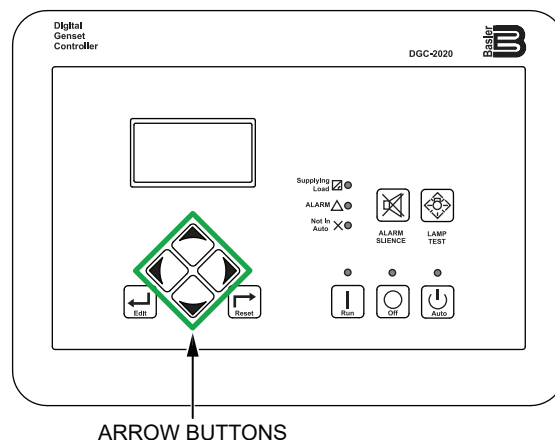

Figure 79. Digital Controller (Arrow Buttons)
2. Use the **Arrow buttons** (Figure 79) to navigate to the **Escape Mode Request menu**: (Settings->Communication->ECU Setup->Isuzu ECU Setup->Escape Mode).
2. Use the Arrow buttons (Figure 79) to navigate to the **Alarms Status** menu (Metering->Alarm-Status). This will allow the operator to perform the following fault diagnostics: